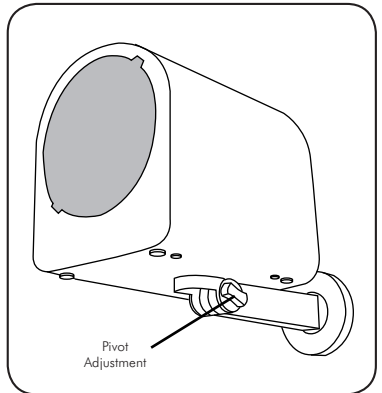

Fig. 20: You can change the direction of the ScentWave with the pivot adjustment screw.
- Attach the wall mounting arm to the base using the retainer ring on the arm and tighten at the desired angle. **(Fig. 20)**